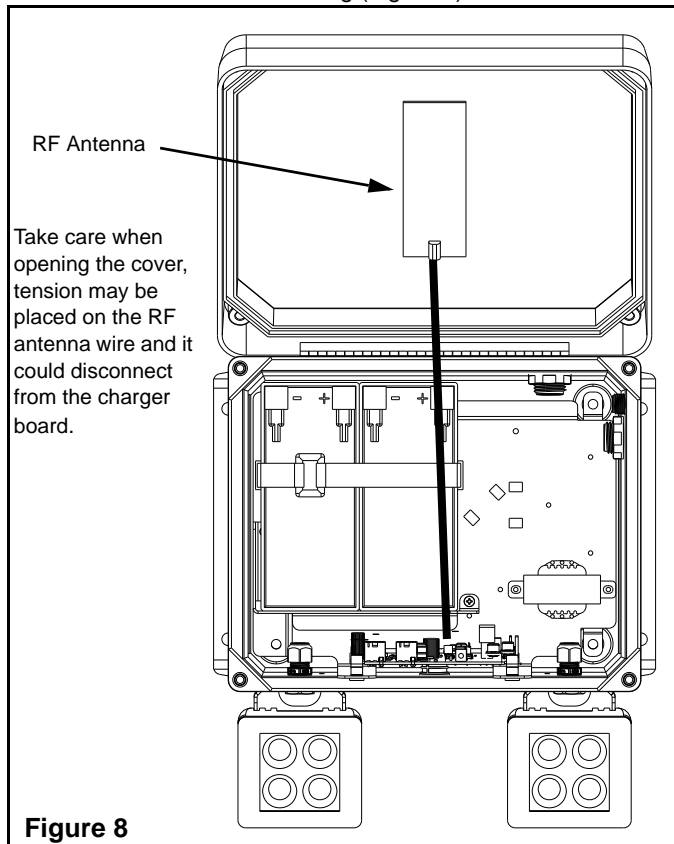

Figure 8
- a. NEXUS wireless (-NEXRF): the equipment has the antenna installed inside the housing (Figure 8).